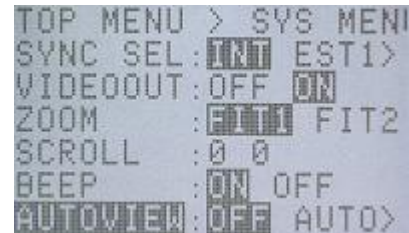

Figure 5-21 AUTOVIEW
- 3) Use the arrows  to select "AUTOVIEW" from the SYS MENU (Figure 5-21).